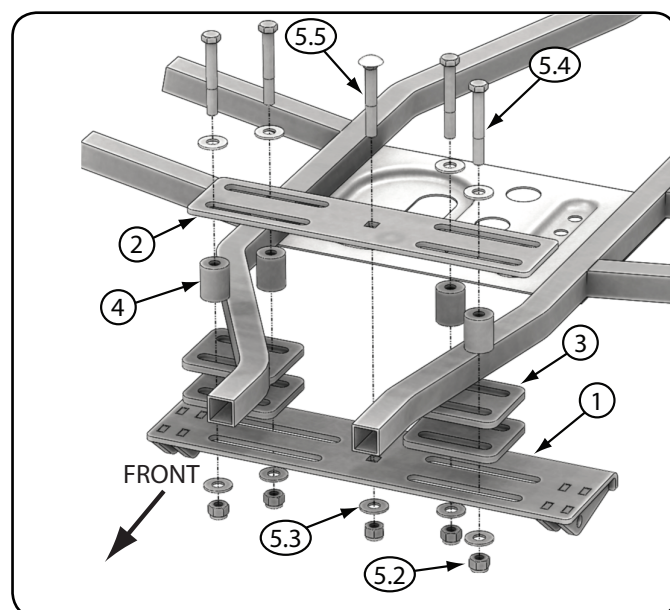

Figure 25 - Hybrid Mount Sportsman Install
4. Loosely install the upper mount plate (2), 4 spacer plates (3) and lower mount plate (1) using the rubber spacers (4), $\frac{3}{8}$ in. (9.5 mm) bolts (5.4), $\frac{3}{8}$ in. (9.5 mm) carriage bolt (5.5), nuts (5.2) and washers (5.3) provided with your mount. See Figure 25.